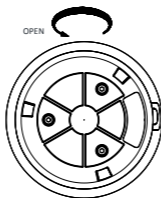

Figure 2-1 Remove the Installation Plate
1. Rotate the installation plate anticlockwise to separate it from the camera as shown in Figure 2-1.